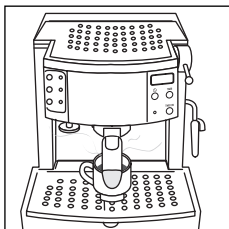
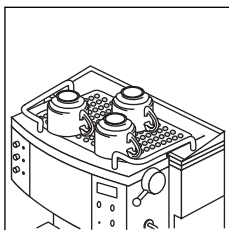

fig. 13
fig. 14
5. Place the cup or cups under the filter holder spouts (fig. 13). You are recommended to heat the cups before making the coffee by rinsing them with a little hot water or placing them to warm on the top plate for at least 15-20 minutes (fig. 14).